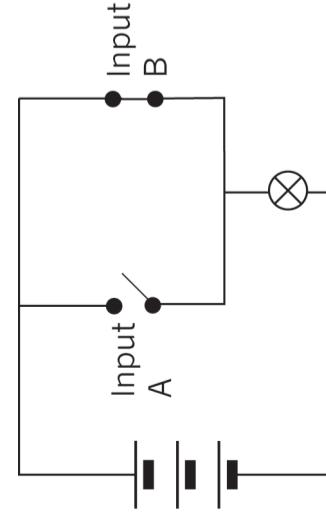

Figure 12: Circuit with two switches in parallel
- Complete the truth table below for the circuit in Figure 12.